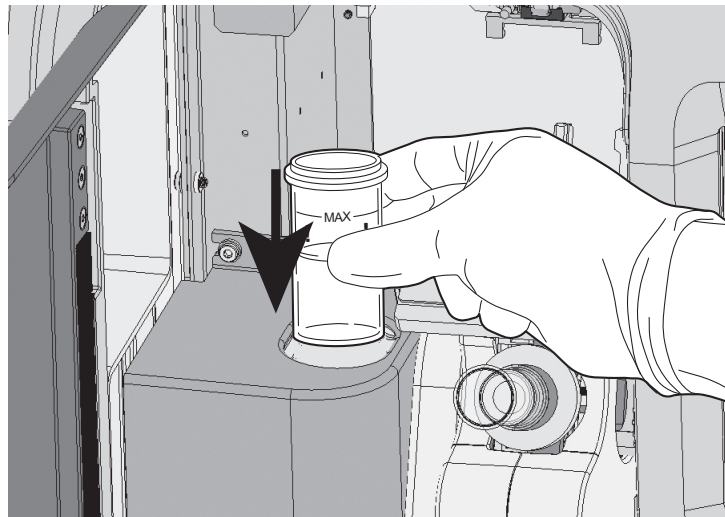

Figure 7-9 Loading the fixative bath
2. Before running a process that transfers sample cells onto a ThinPrep microscope slide, place the fixative bath into the fixative bath holder. The bottom of the bath rests on the base of the holder. Refer to Figure 7-9.